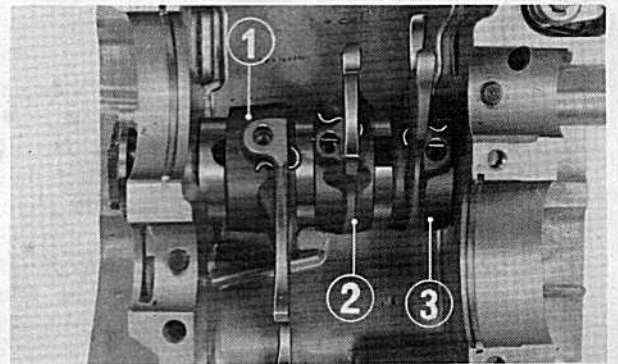

Fig. 3-60 (1) Right gearshift fork
2. Insert the shift fork guide pin clips properly as shown in Fig. 3-60.